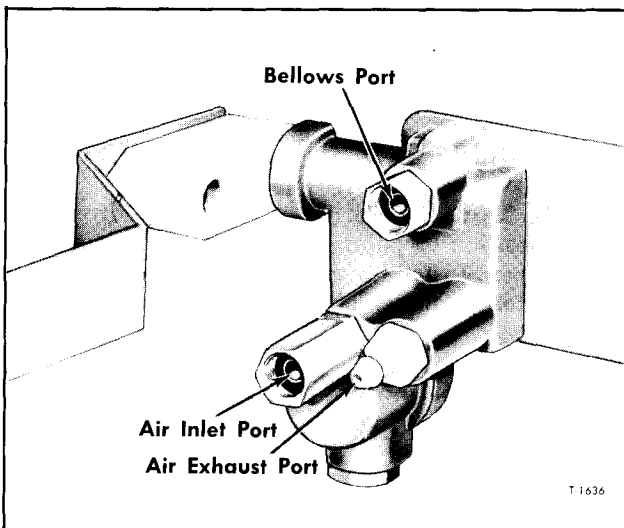

Figure 50—Height Control Valve Port Identification
6. If vacuum source is available, attach supply hose to valve exhaust port (figure 50) using Sun Tester fitting #115-3 or equivalent. Do not apply vacuum at this time.
7. Attach air pressure supply hose to air inlet port (figure 50). Do not apply pressure at this time.
1. Connect air supply hose (80 to 110 psi) to air inlet port (figure 50).
b. Being careful not to disturb indicator setting, disconnect air supply from the air inlet port and connect it to the bellows port (figure 50).
1. Connect air pressure supply hose to valve air inlet port (figure 50).
a. Connect vacuum hose to air exhaust port (figure 50). Adjust vacuum to 15 inches.
b. Connect air pressure supply hose to bellows port (figure 50).